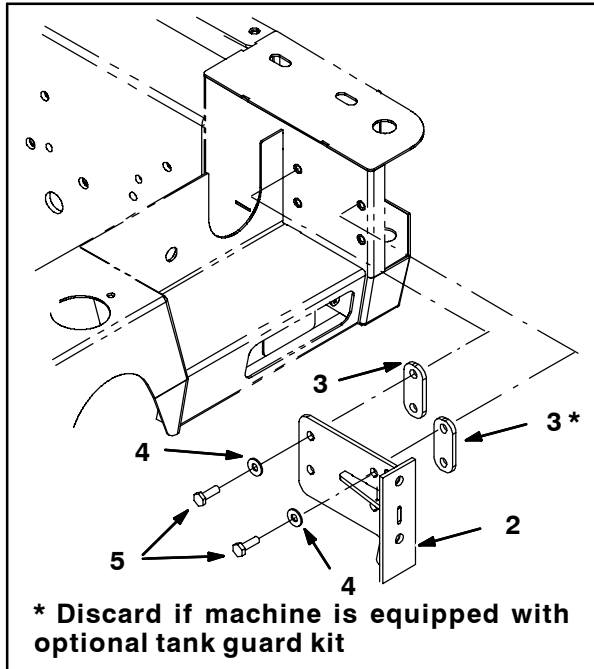

FIG. 3
- Slide the links (3) into the holes in the frame of the machine where the rubber wheels were located, align the links with the mounting holes in the frame, and use four hex screws (5), four flat washers (4), and two links to mount the right rear support (2) to the right side of the machine. Refer to Fig. 3.